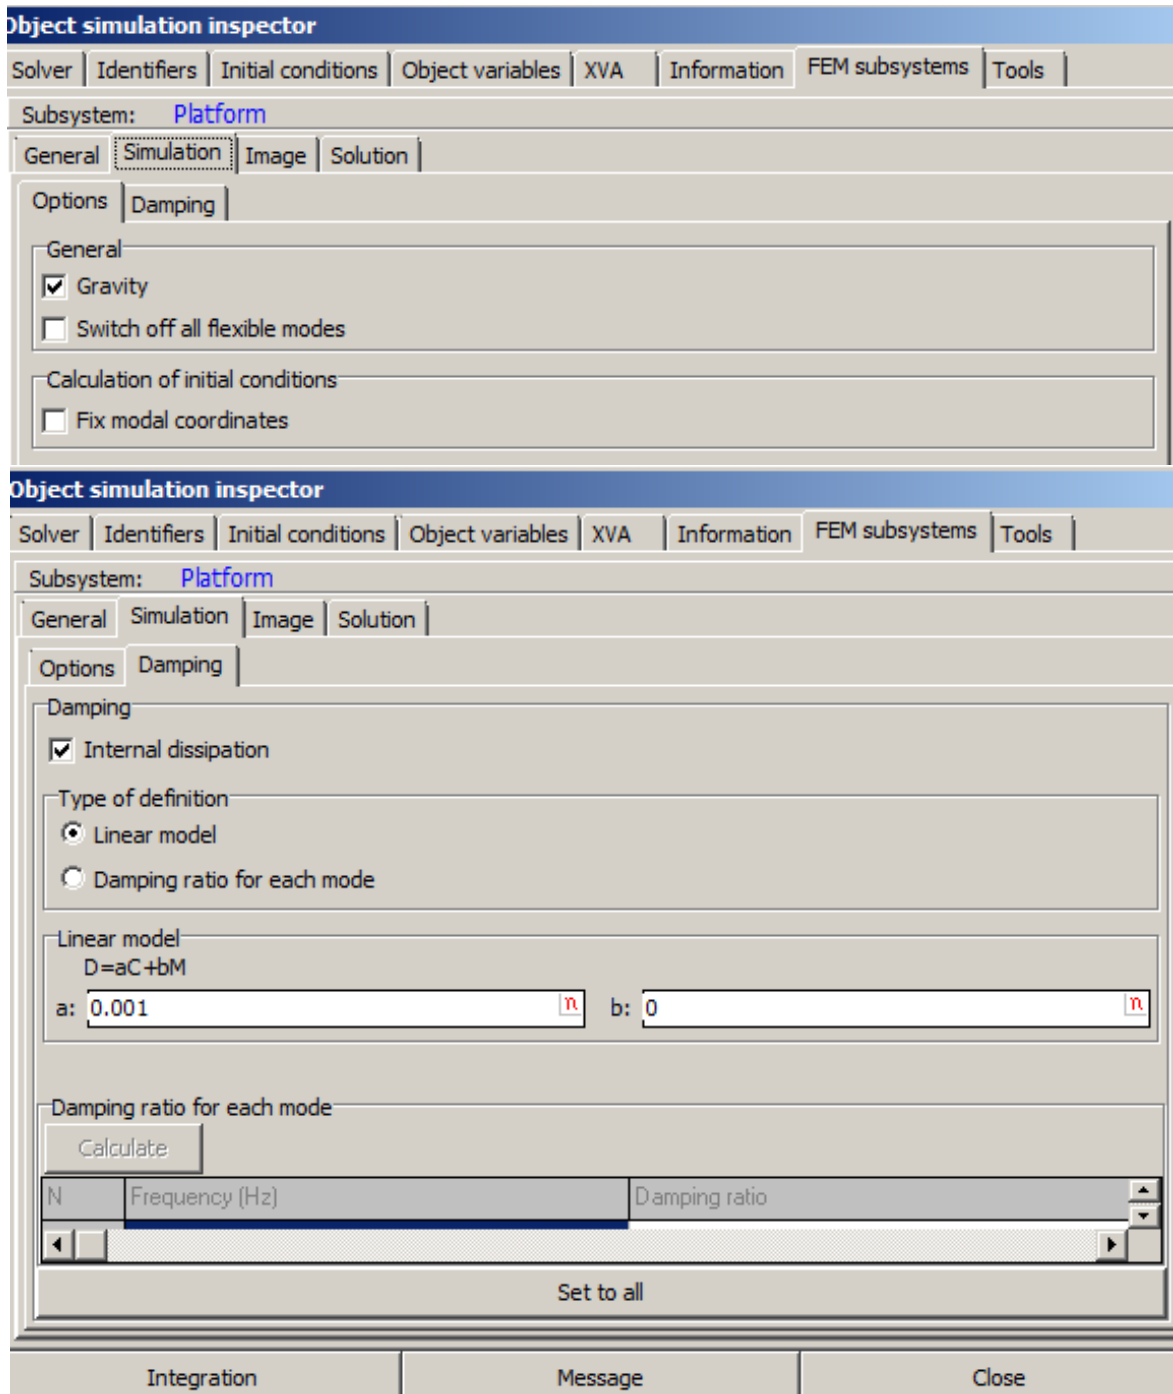

Figure 2.62.
- On the FEM subsystems | Simulation tab switches gravity, internal dissipation as well as linear model should be ON. Set  $a=0.001$ ,  $b=0$  (Figure 2.62).
12. The option **switch off all flexible modes** should be on (Figure 2.62).
15. Change the **option switch of all flexible modes** to off (Figure 2.62).